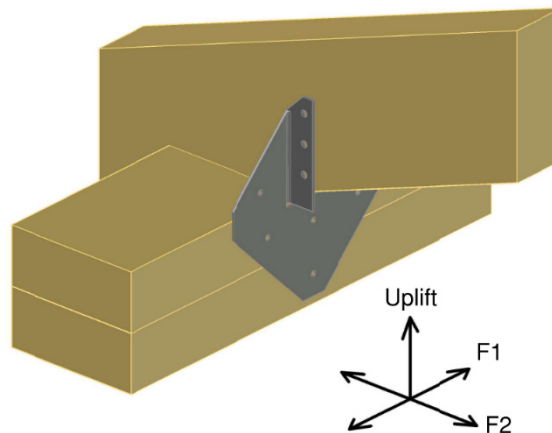

Figure 3. CH21 Load Orientations
1. Loading in the F1 direction indicate shear forces parallel to the plane of the wall, one side of the connection to the truss/rafter in withdrawal. See Figure 3 for more detail.